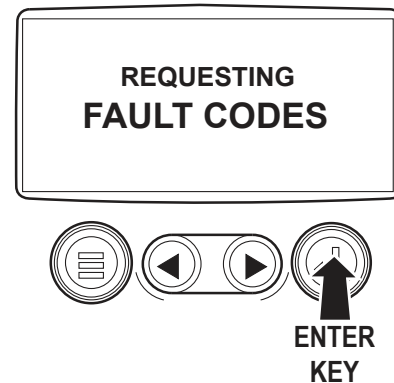

Figure 12 – Access Stored Fault Codes
3. Touch the Enter Key to view any stored fault codes. The display will respond by presenting a Requesting Fault Codes message while the system retrieves the codes. See Figure 12.